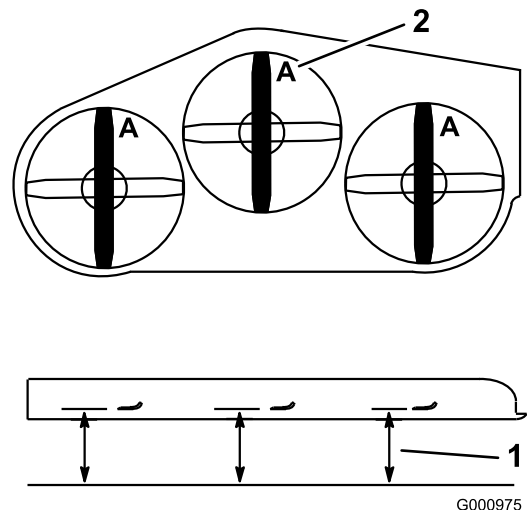

Figure 97
4. Measure from a level surface to the cutting edge, position A, of the blades (Figure 97).